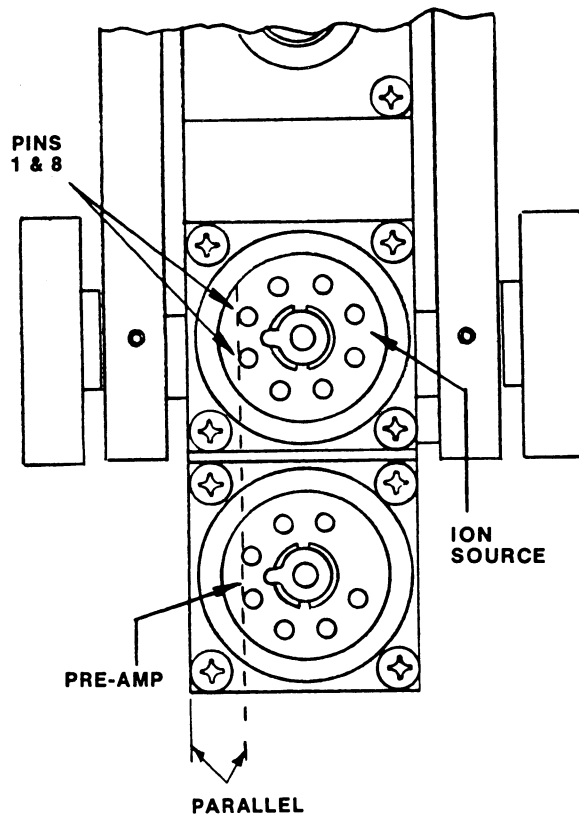

Fig. 4-15. Ion Source Alignment
19. Wipe new O-ring and mating surfaces with clean lint-free cloth and place new ion source in cavity. Locating pin should be approximately in center of guide hole. Be sure pins 1 and 8 are parallel to the sidewall of the spectrometer tube (Fig. 4-15). Tighten hold-down flange evenly and firmly. (A straight edge held against pins 1 and 8 of both octal arrays is a convenient way to assure parallelity.)